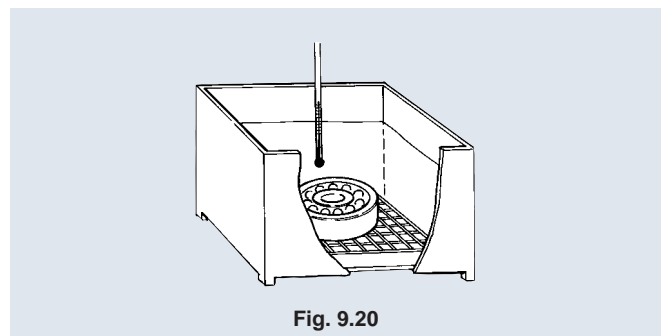

Fig. 9.20
- b. Usually, the bearing is heated in oil (Fig. 9.20). However, it may be heated in a heater.